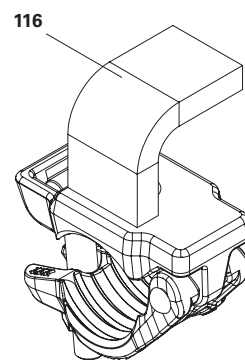

Fig. A10.09
The Flange Coupling UEC (116) (Fig. A10.09) has been replaced by the Flange Coupling UEF (86). The Flange Coupling UEC can still be used, but has a lower load capacity compared to the Flange Coupling UEF. It may only be mounted on horizontal flange supports.